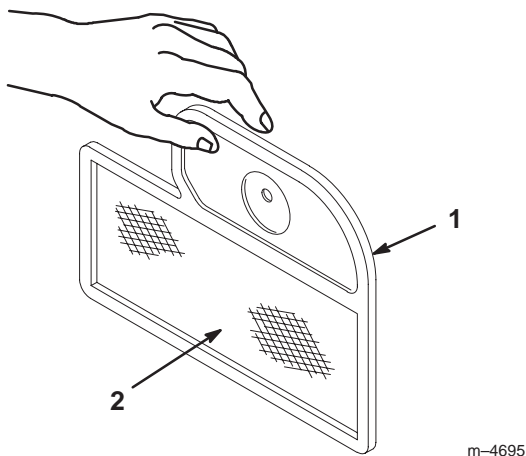

Figure 21
- A. Lightly tap the element on a flat surface to remove dust and dirt (Fig. 21).